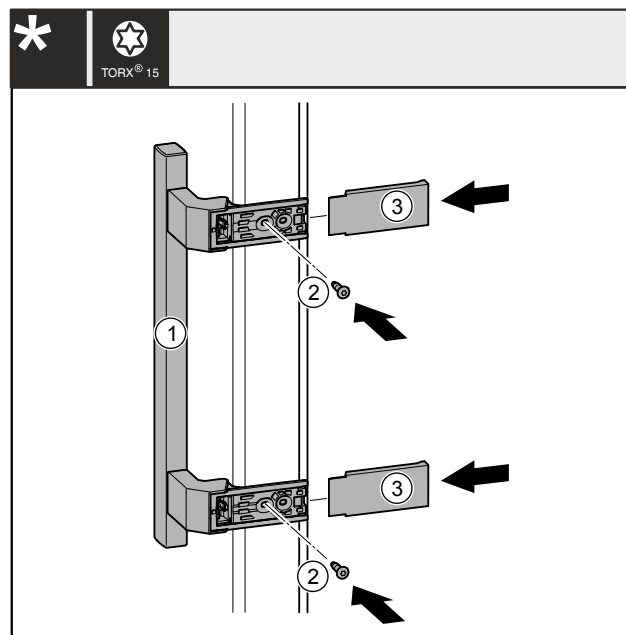

Fig. 36
- ▶ Attach the handle on Fig. 36 (1) the opposite side.
- ▶ Tighten the screws Fig. 36 (2) with the screwdriver.
- ▶ Attach the covers Fig. 36 (3) on the sides and slide them on so that they snap in.